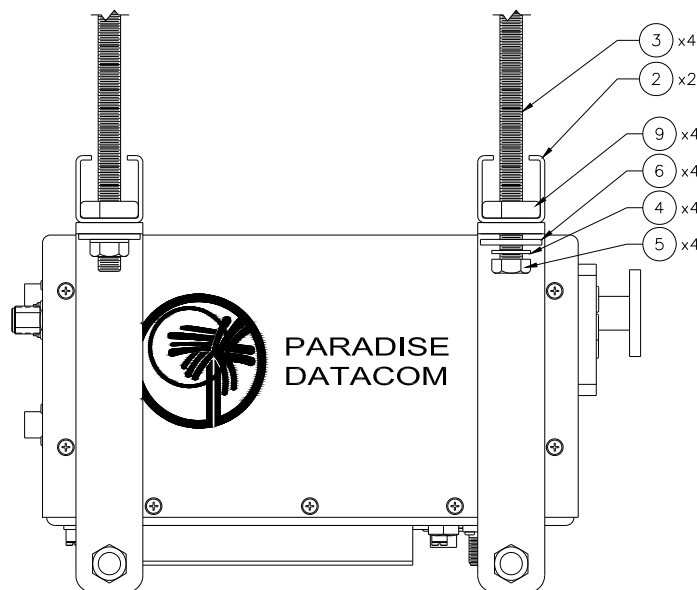

Figure 2-4: Install All-Thread stud
3. Place one piece of Uni-Strut (Item 2), with the open channel up, at each end of the unit, across the flanges of the mounting brackets, lining up the holes. Run on a self-holding nut (Item 9) about 1" from the end of each All-Thread stud (Item 3). Slip the self-holding nut into the channel and through the Uni-Strut and mounting flange. Secure firmly in place with a flat washer (Item 6), lock washer (Item 4) and nut (Item 5). The unit should now look as shown in **Figure 2-4**.